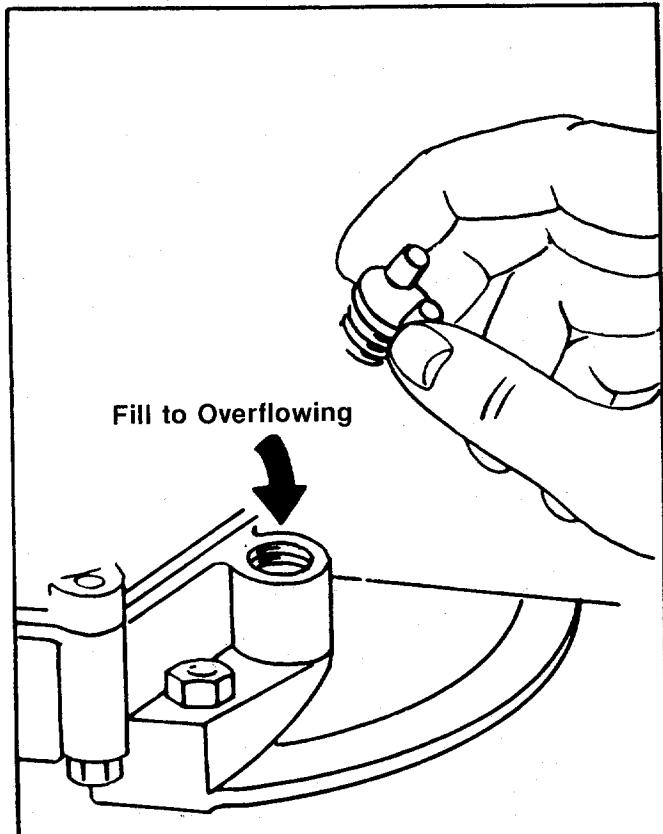

FIGURE 16. OIL FILL
Check the oil level in the crankcase before each use of the machine and after every two hours of operation. Keep the oil level to the overflowing point. See figure 16.
Step 3. With the machine on level ground, remove the oil filler plug. See figure 16. Fill the crankcase until the oil overflows from the oil fill hole. Fill slowly to avoid air locks. The crankcase holds approximately 1 3/4 pints of good quality SAE 30 type MS engine oil. Replace the oil filler plug.